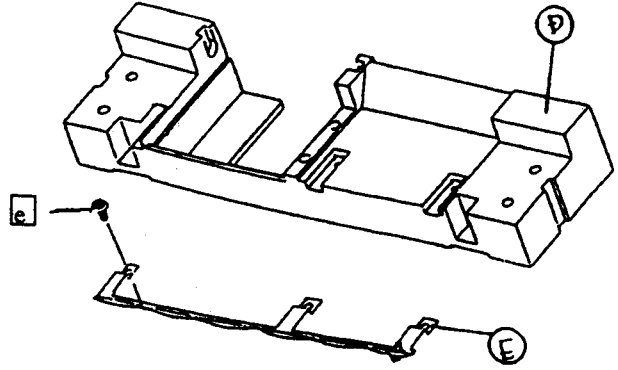

Figure 5-4. Platen Paper Guide Removal
- Remove the left-side screw, ②, on the Platen Paper Guide, E. This screw connects the Platen Paper Guide Assembly E, to Stamp Paper Guide Assembly, D. See Figure 5-4, below.
- Position the Platen Paper Guide Assembly, E, on the Stamp Paper Guide Assembly, D, and replace the screw - ② (see Figure 5-4, above).